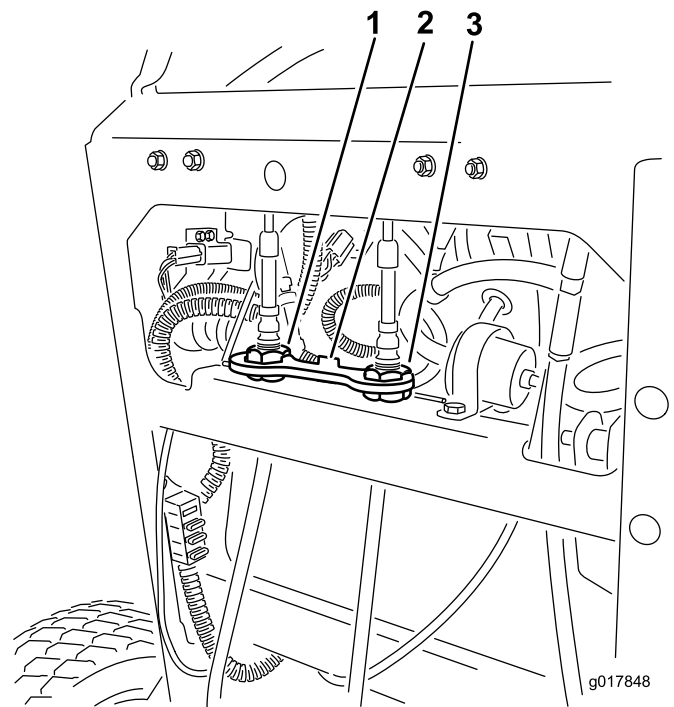

Figure 56
4. Lift and remove the cable lock securing the cable adjusting nuts (Figure 56).
5. Rotate the right cable adjustment to position the right motion control in the center of the control panel neutral lock slot (Figure 56).
10. Install the cable lock onto the cable adjusting nuts to secure the adjustment (Figure 56).